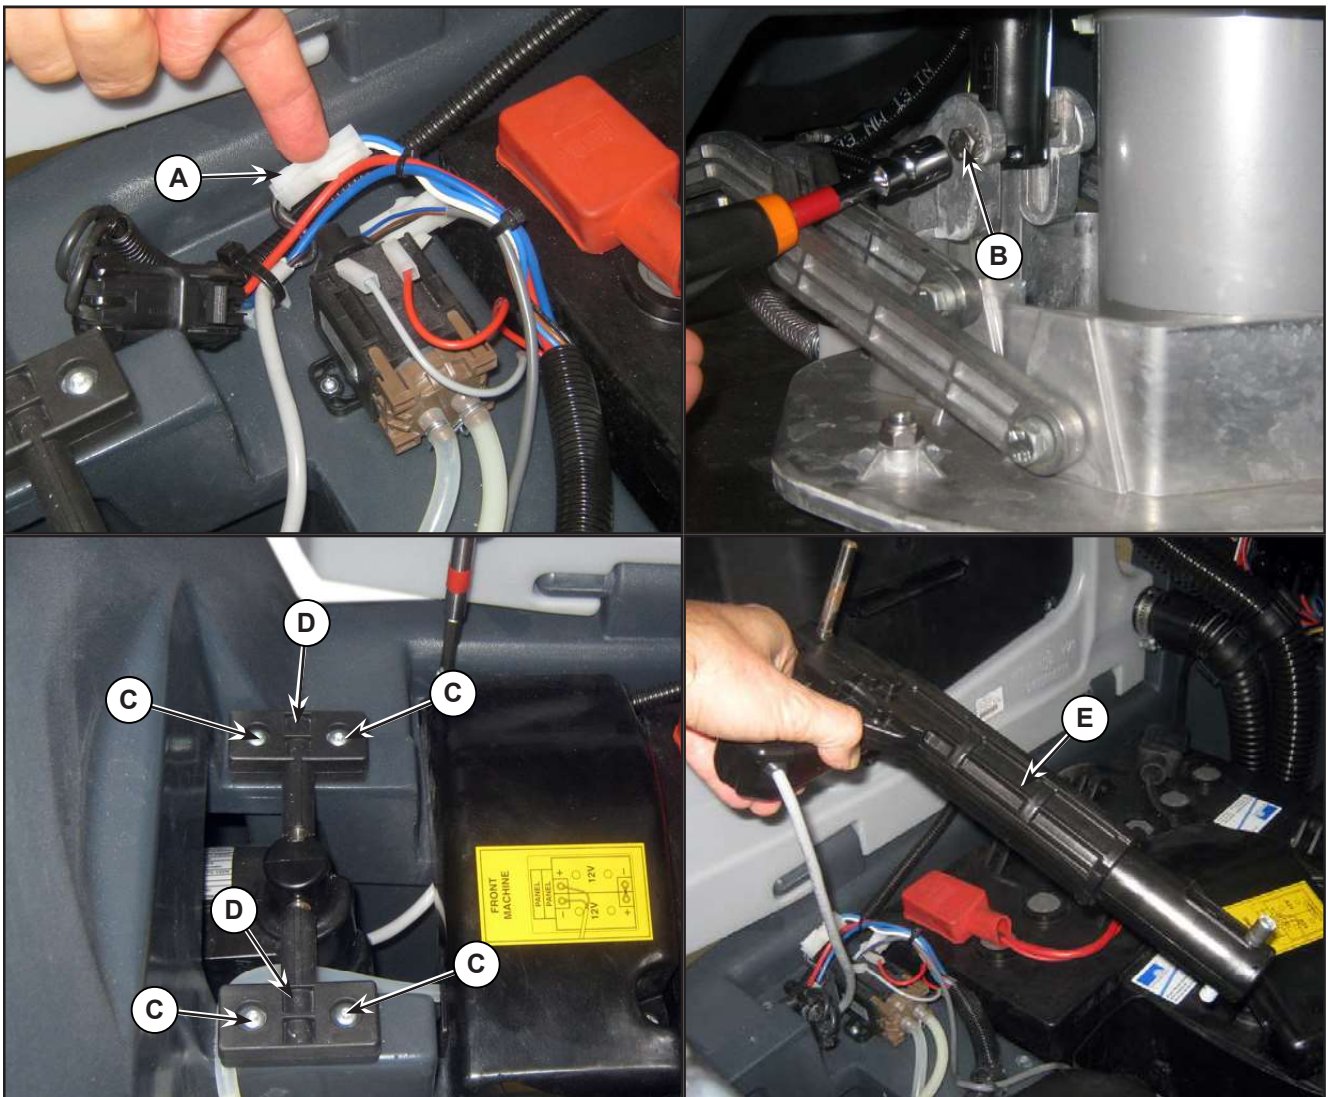

Figure 13:
3. Remove the cover and disconnect the actuator connector (A) (Figure 13).
4. Unscrew the screw (B) of the lower pin, retaining the bushings.
5. Remove the screws (C), retaining the plates (D).
6. Remove the actuator (E).